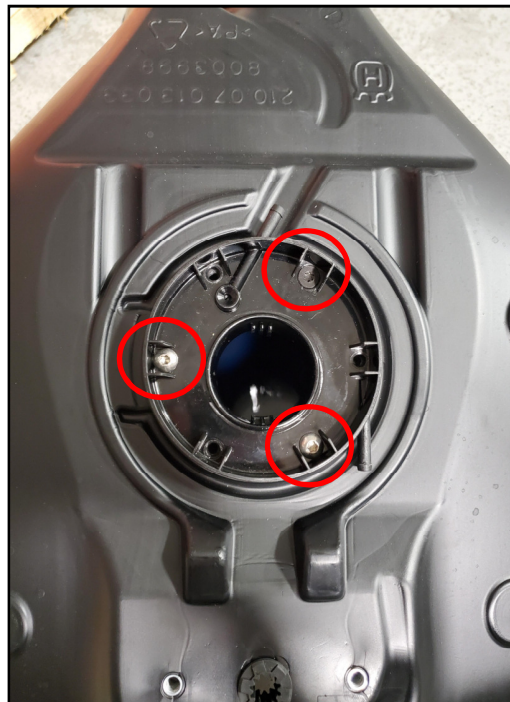

Fig. 9
13. Then install the fuel tank insert and torque the bolts to 3 Nm (Figure 9).